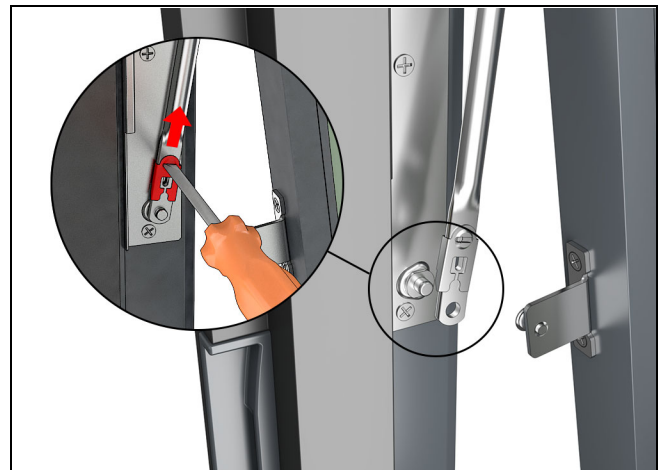

Figure 101
3. While fully supporting the sash, detach the hinge linkages from both sides of the sash. Use a flat head screwdriver to disengage the clip. Pry the hinge arm inward to release the arm from the hinge stud. See Figure 101.